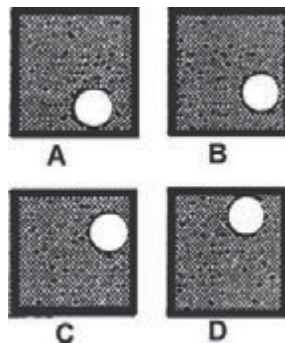

Figure 5-Stop Block Orientation
Step 1) There are four key positions to place the Square Stop Block (3#) in while bending. The four positions (as seen from looking down on the top of the Square Stop Block) are identified in this manual by a letter; A, B, C, or D. See **Figure 5** for the letter and the corresponding position of the Square Stop Block.
Step 3) Set the Square Stop Block (3#) into the 1st hole on the Ring Assembly /Die Receiver (10#). Orient it as in B (See **Figure 5**).